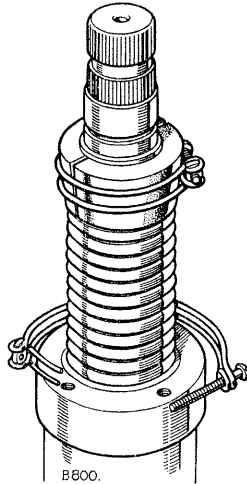

Fig. G-9—
5. Remove the clips retaining the spring, slide the lower brass thrust washer over the top end of the shaft and carefully enter the assembly, top end first, into the housing; push the shaft into the housing, up towards the bleed plug end, so leaving the first hose clip free. Remove the clip and push the shaft home; release the second hose clip. See Fig. G-9.
9. With a plastic hammer gently tap the shaft into the housing until the first hose clip slides off the Tufnol bush, remove the clip completely from the shaft. See Fig. G-9.